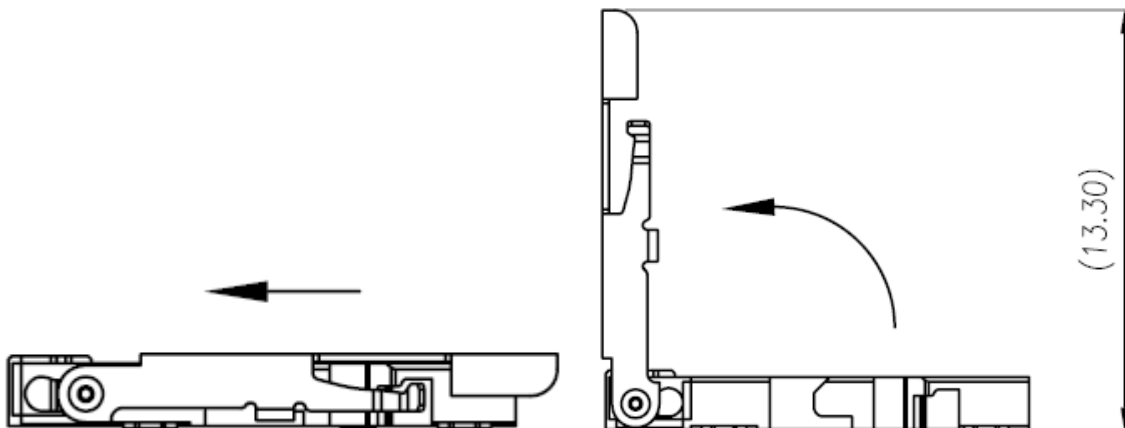
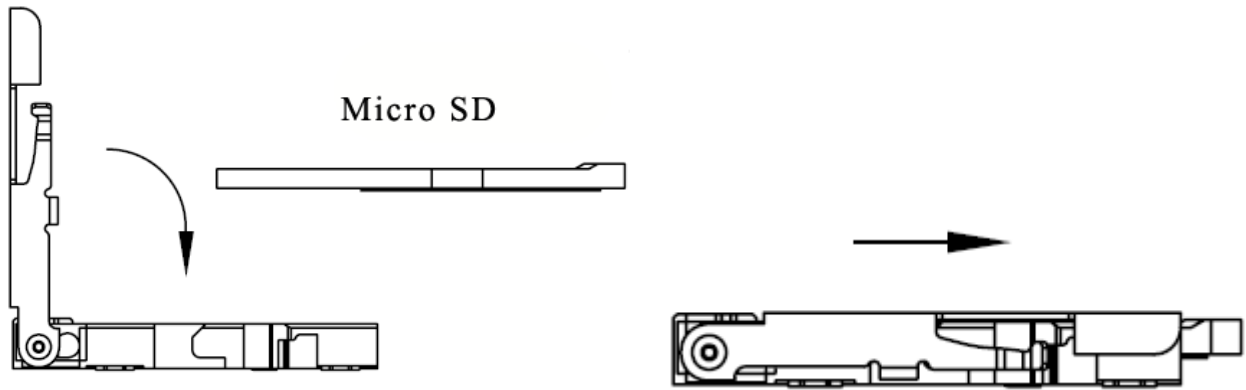

Figure 2-5 Micro SD Card installation illustration 1
Figure 2-6 Micro SD Card installation illustration 2
Step 1 Find the Micro SD Card slot in figure 2-5, open the Micro SD Card slot according to the direction shown in figure 2-6.
Step 3 According to the direction shown in figure 2-6, close the Micro SD card slot and keep it locked.